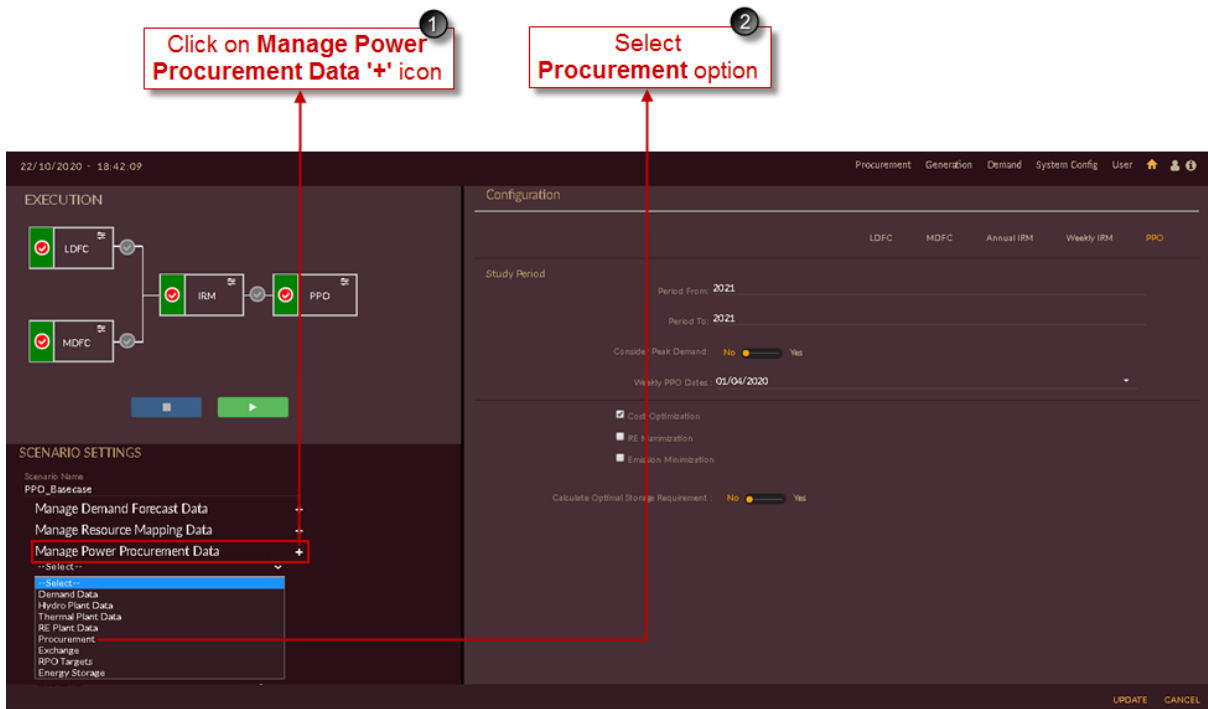

Figure 267. Manage Procurement Data
2. Select **Procurement** from the drop-down list as shown in Figure 267.